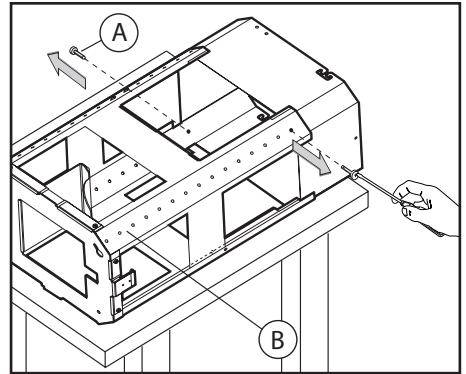

Fig.1
Remove the structure from the packaging and remove the 2 screws **A** to separate the upper part from the lower part (**Fig.1**).
**Fig.1:** Put together the two parts of the air diverter as shown in picture **no 3.1**. It may be necessary to cut the deviator to fit the width of the chimney as shown in picture **3.2**. A sharp blade or Hacksaw is recommended to trim the plastic.